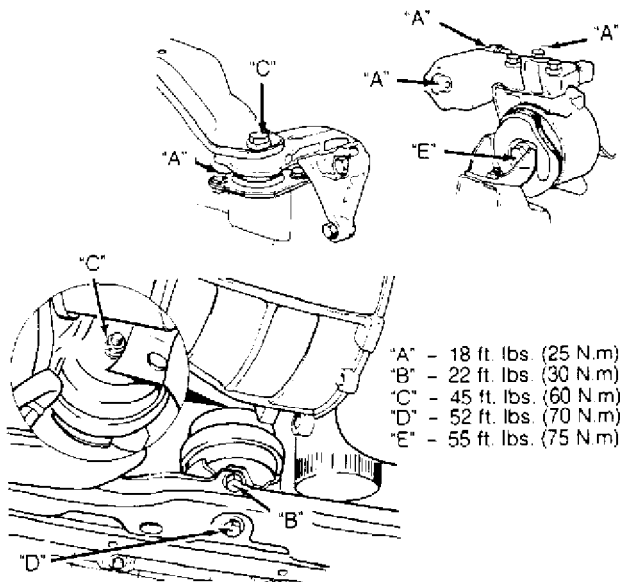

Fig. 2: Aligning Engine/Transaxle Assembly
1) To install, reverse removal procedure. Engine alignment adjustment is necessary whenever engine is removed or mounts are loosened. To adjust, loosen through bolt on engine mount "A". Loosen transmission transaxle mount "B" bolts. Loosen front engine mount and bracket. See Fig. 2.